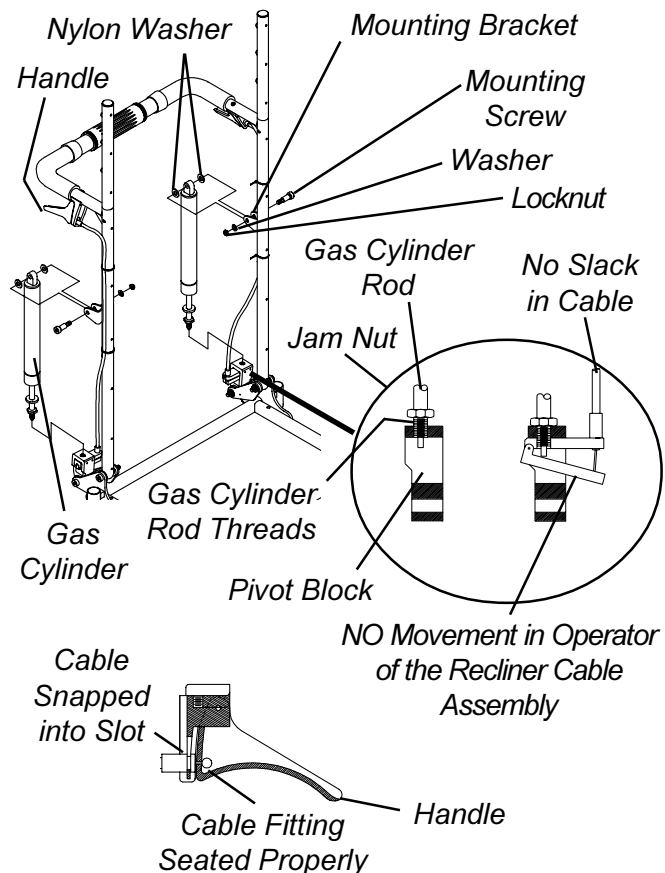

FIGURE 4 - REPLACING/ADJUSTING GAS CYLINDERS
### REPLACING/ADJUSTING GAS CYLINDERS (FIGURE 4)
4. Screw cylinder rod of the NEW gas cylinder into the pivot block until the threads of the cylinder rod are flush with inside of pivot block (FIGURE 4).
- A. Finger tighten the jam nut on the rod of the gas cylinder until it bottoms out on the rod of the cylinder (**FIGURE 4**).